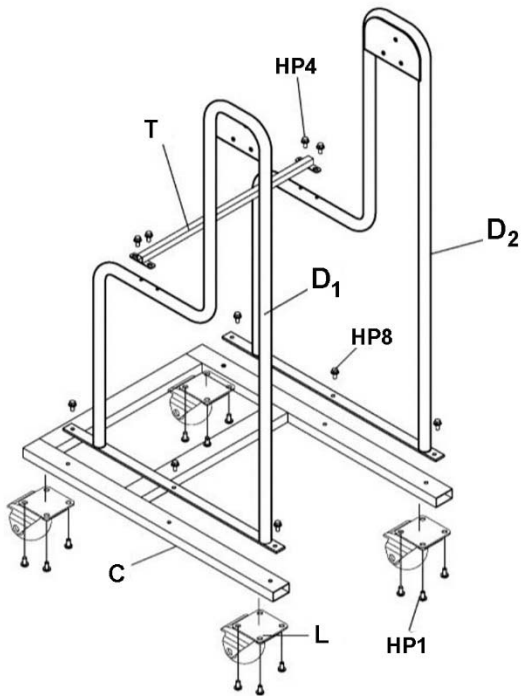

Figure 3
1. Install four casters (L) to base (C) with pan head screws (HP1). See Figure 3.
2. Install left and right stands (D₁, D₂) to base (C) with flange head screws (HP8).
3. Install stand support (T) to stands with flange head screws (HP4).